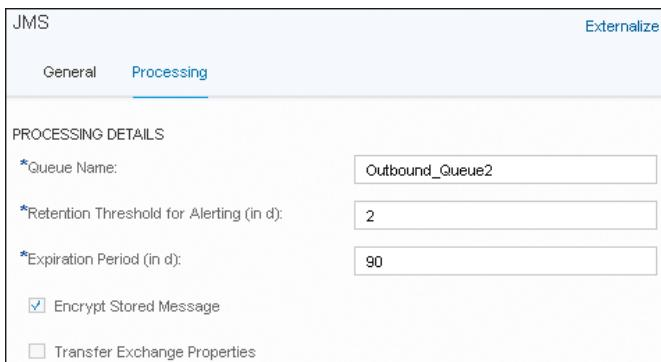

Figure 5.93 Configuration of the JMS Receiver Channel for Outbound Queue
6. In the **JMS** channel's **Processing** tab, configure **Outbound_Queue2** as **Queue Name**, and keep the defaults for the other configuration settings (Figure 5.93).